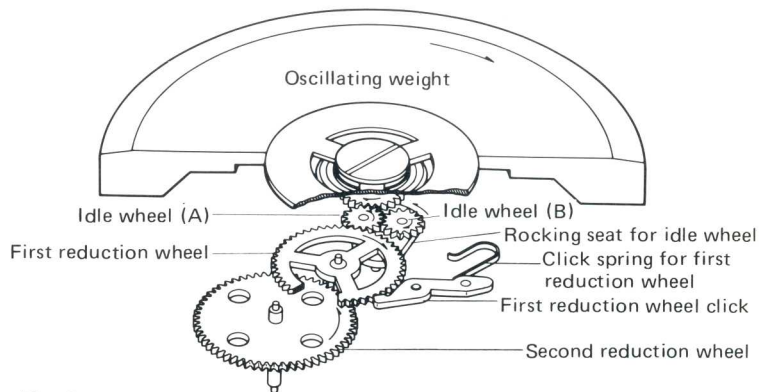

Fig. 1
(5) Automatic winding mechanism
When the oscillating weight revolves clockwise, the idle wheel (A) turns counterclockwise by action of the oscillating weight pinion; also the rocking seat for idle wheel revolves in the arrow direction. (The pin of the rocking seat for idle wheel revolves in a range of hole of the barrel and train wheel bridge.) In this case, idle wheel (A) transmits force by meshing with the first reduction wheel, and idle wheel (B) is freed from the first reduction wheel (Refer to Fig. 1)